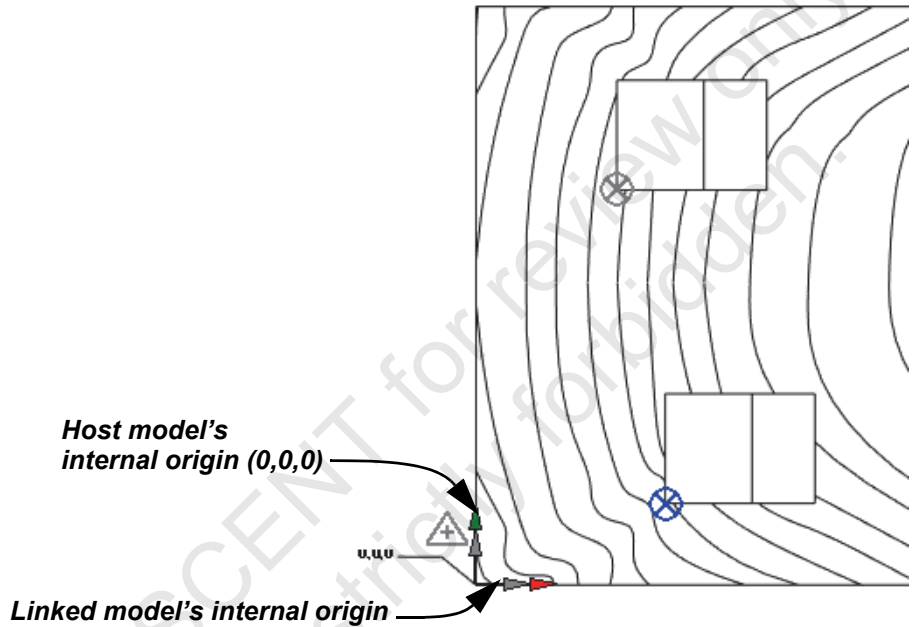

Figure 1–26
- You will note that the host model's project base point and the linked Annex-M.rvt's project base point are now lined up and on top of each other, as shown in Figure 1–27.